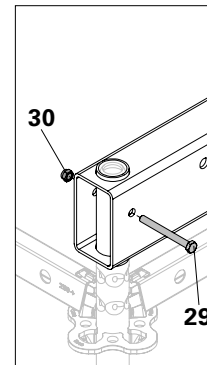

Fig. A9.01b
2. Mount Bolt (29) and Nut (30) on the Ledger and leg – per Ledger – 2x. (Fig. A9.01b)